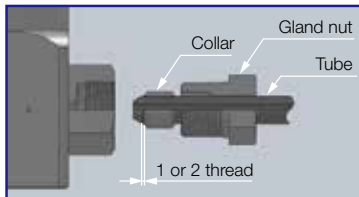

Fig.1
- Attach the gland nut and collar on the tube. Thoroughly screw in the collar until one or two thread can be seen at the tip of tube. (Ref. Fig.1)